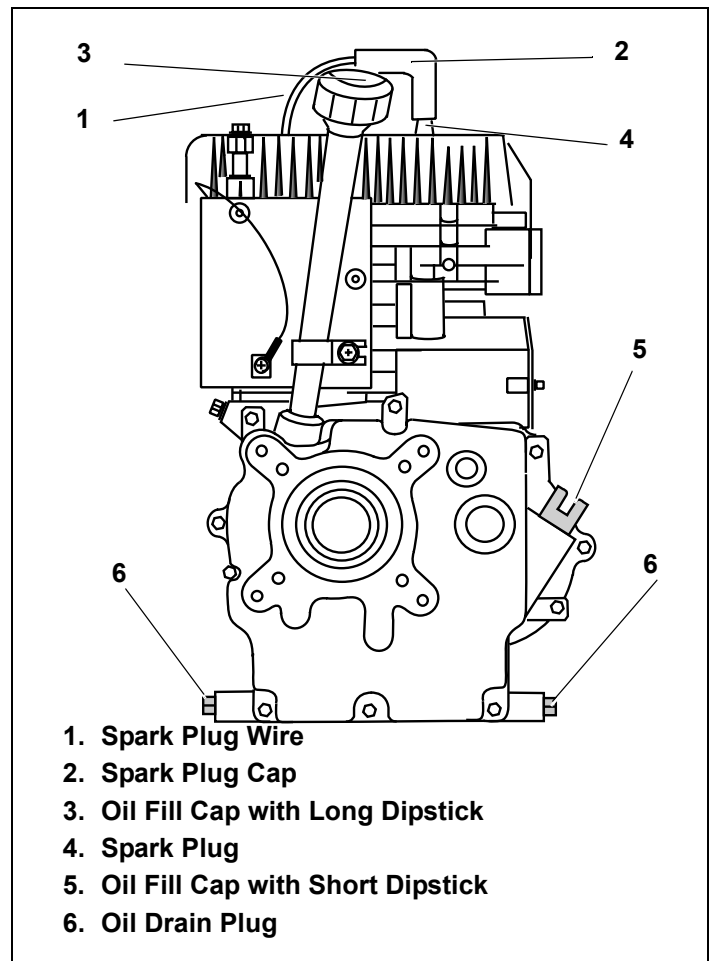

Figure 8. Engine Components
2. Unscrew oil fill cap from oil filler tube and wipe dipstick clean. See Figure 8.